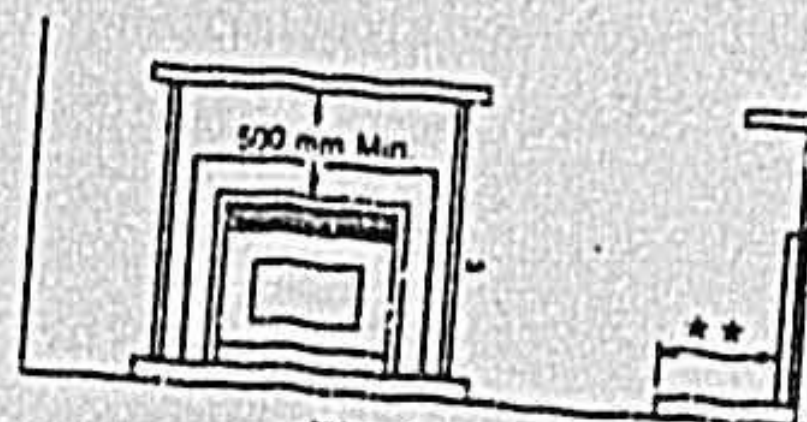

Fig. 1a
4. The clearances shown in these instructions are necessary to prevent overheating of nearby combustibles and the drying out of timber in the house structure (see Fig. 1a). Ensure that any heat sensitive material is at least 50mm clear of either side of the heater surround and 500mm clear of the top of the heater surround.
2. Check that there is a suitable hearth extension or floor protector. (See minimum clearances to combustible materials in Fig. 1a).